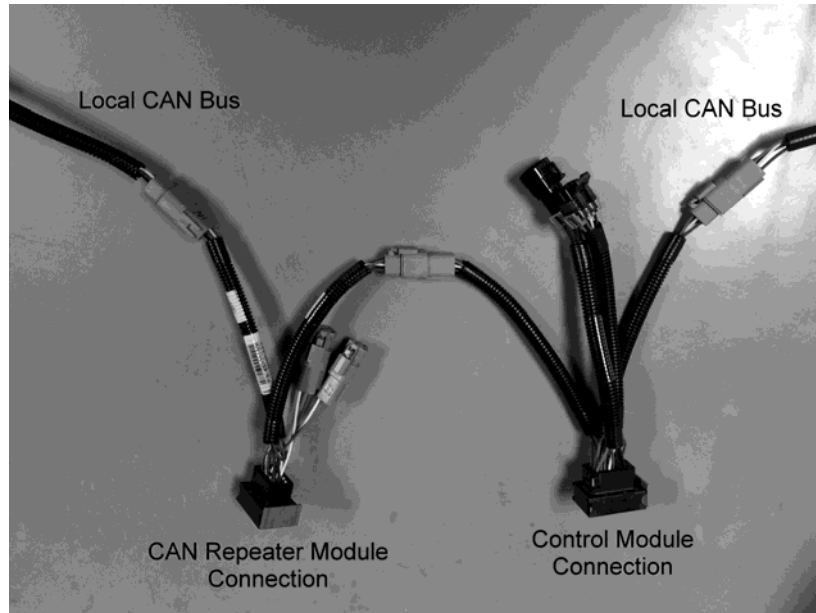

Figure 2: Cable Connections
7. Connect the 6-pin plug and receptacle on the CAN Repeater Module cable into the mating plug and receptacle disconnected in the previous step. See system line art on page 3 and Figure 2.